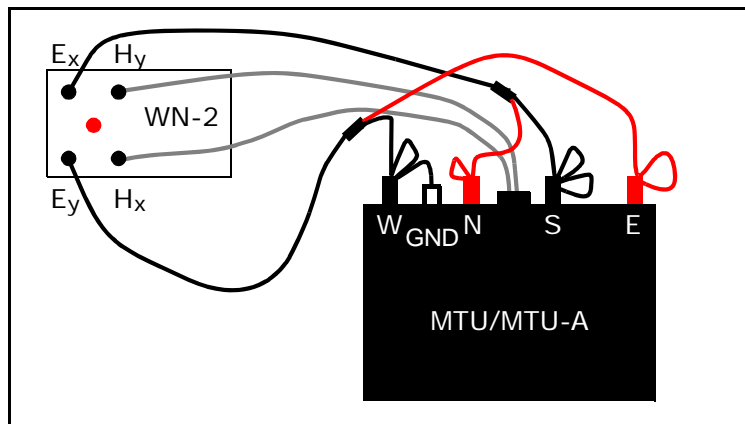

Fig. C-3: Setup for white noise test. (Battery and GPS antenna omitted for clarity.)
2. Using the special cable supplied with the WN-2, connect the E_x terminal of the WN-2 to the N and S terminals of the receiver: Connect all three lugs on the black wire to the S terminal and both lugs on the red wire to the N terminal. (See Fig. C-3.)
3. Connect the E_y terminal of the WN-2 to the GND, E and W terminals of the receiver: Connect the lug at the end of the black wire to the GND terminal and the other two lugs to the W terminal. Connect both lugs on the red wire to the E terminal. (See Fig. C-3.)